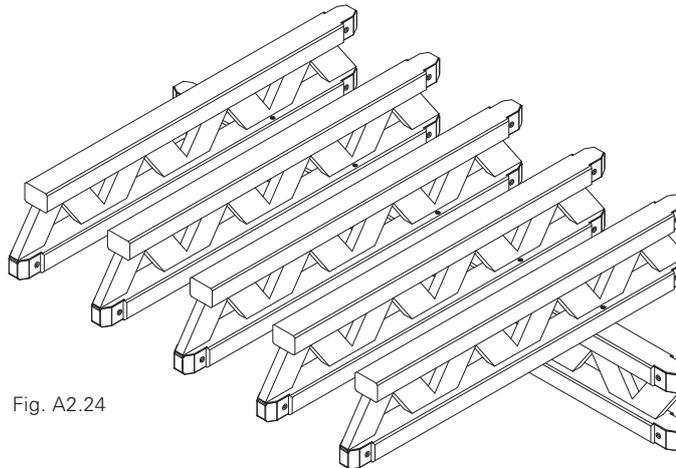

Fig. A2.24
3. Connecting the main and cross beams is carried out using 2 x Spax bolts 6 x 100 and washers Ø 6.4 per cross beam. (Fig. A2.24)